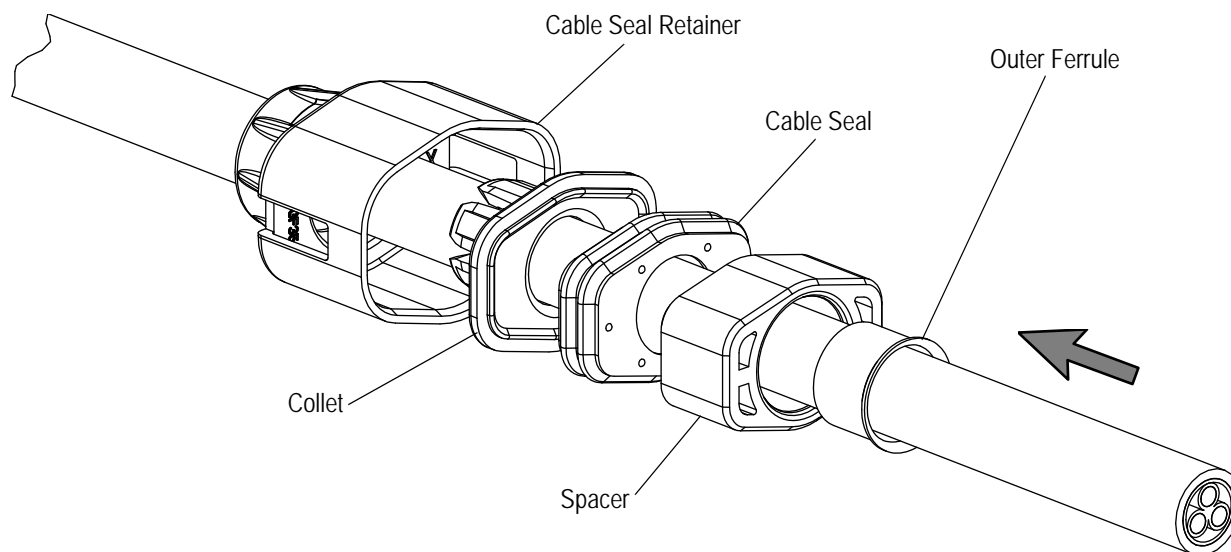

Figure 3
1. In the orientation shown in Figure 3, slide the cable seal retainer onto the cable first, then the collet, cable seal, spacer, then finally the outer ferrule.